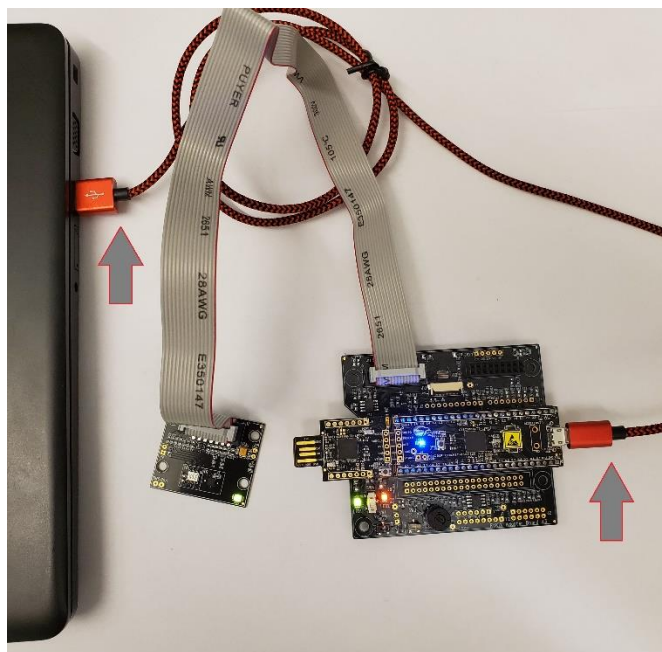

Figure 13. CY8CKIT-059 connected to PC (connection to the evaluation board is optional in this step)
2. Connect the Cypress CY8CKIT-059 Prototypic Kit to a computer using the provided microUSB cable (Figure 13).
- ✓ Connect the RoKiX Development kit to the PC with the provided micro-USB cable (Figure 13).